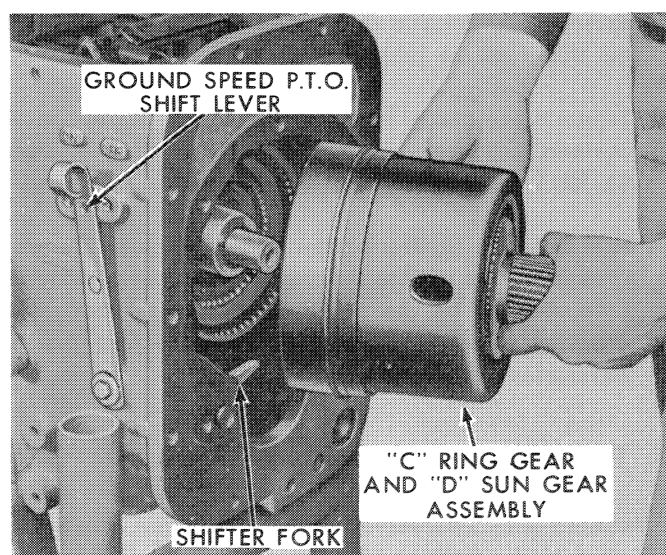

Figure 44
5. Move the ground speed P.T.O. shift lever as required to locate the drive collar shifter fork in its lower position. Remove the "C" ring gear "D" sun gear assembly, as shown in Figure 44.